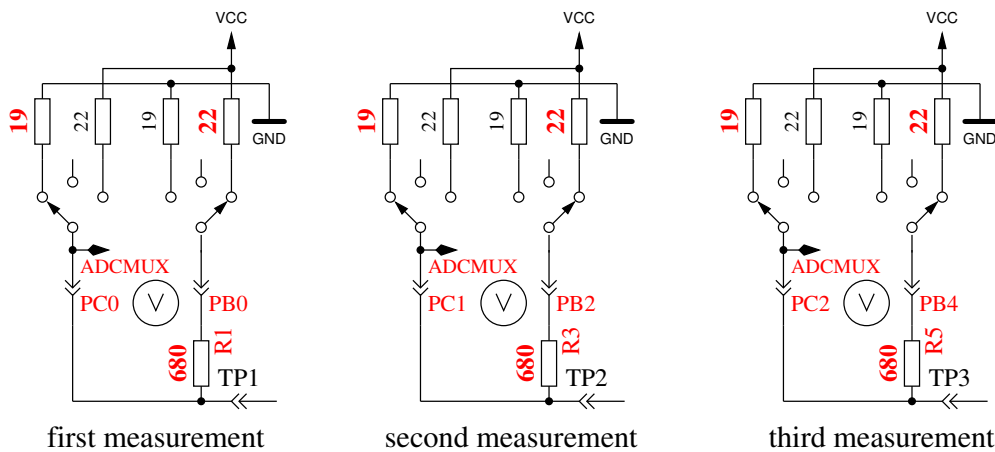

Figure 5.44: Measurement of internal resistance of Port C switched to GND
5. **This step tests the capability of GND (-) connected 470kΩ resistors (H) to pull the test pins to GND.** Row 1 shows the text “RH-”. Row 2 should display zero for all three pins.
6. **This step tests the capability of VCC (+) connected 470kΩ resistors (H) to pull the test pins to VCC (+).** Row 1 shows the text “RH+”. The results are shown als difference to VCC and should be near zero. Great differences from the best value for test 5 and 6 are errors such as isolation problem, flux material or damaged port.
7. **Measuring of internal resistance of pin output switched to the GND signal.** This test and the follwing tests will only be done, if the option AUTO_CAL is selected. The internal resistance of the port C outputs switched to GND (-) are measured with the current of to VCC (+) switched 680Ω resistors, see Figure 5.44. Only the three pins of the ADC port are measured, the resistor port B (PB0,PB2 and PB4) can not be measured without hardware modification. Is is assumed that the port resistance of the different ports are nearly identical. The resistor value will be shown in the next test.